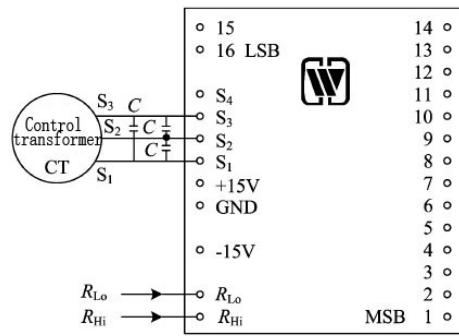

Fig. 4 Connection diagram for typical application
6. Connection diagram for typical application (Fig. 4)